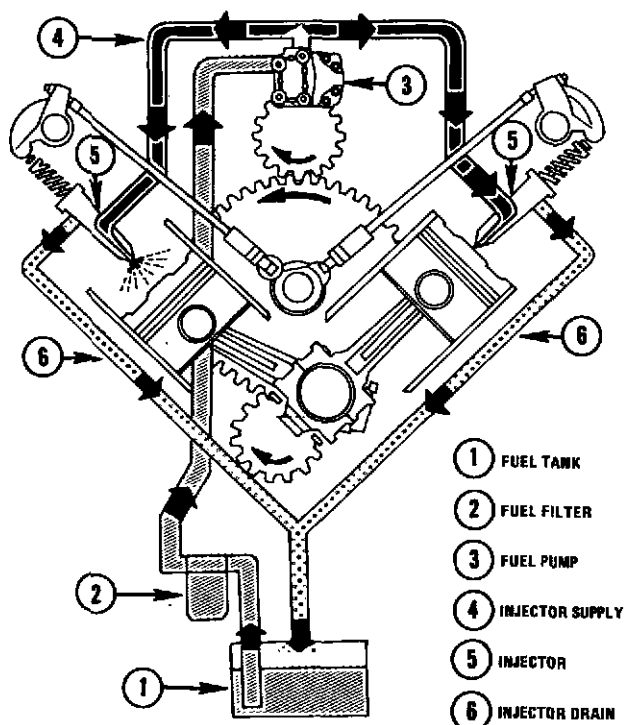

Fig. 1-1, FWC-30. PT fuel system flow schematic
1. A fuel pump to draw fuel from supply tank and deliver it to an individual injector for each cylinder. See Figs. 1-1 and 1-2.